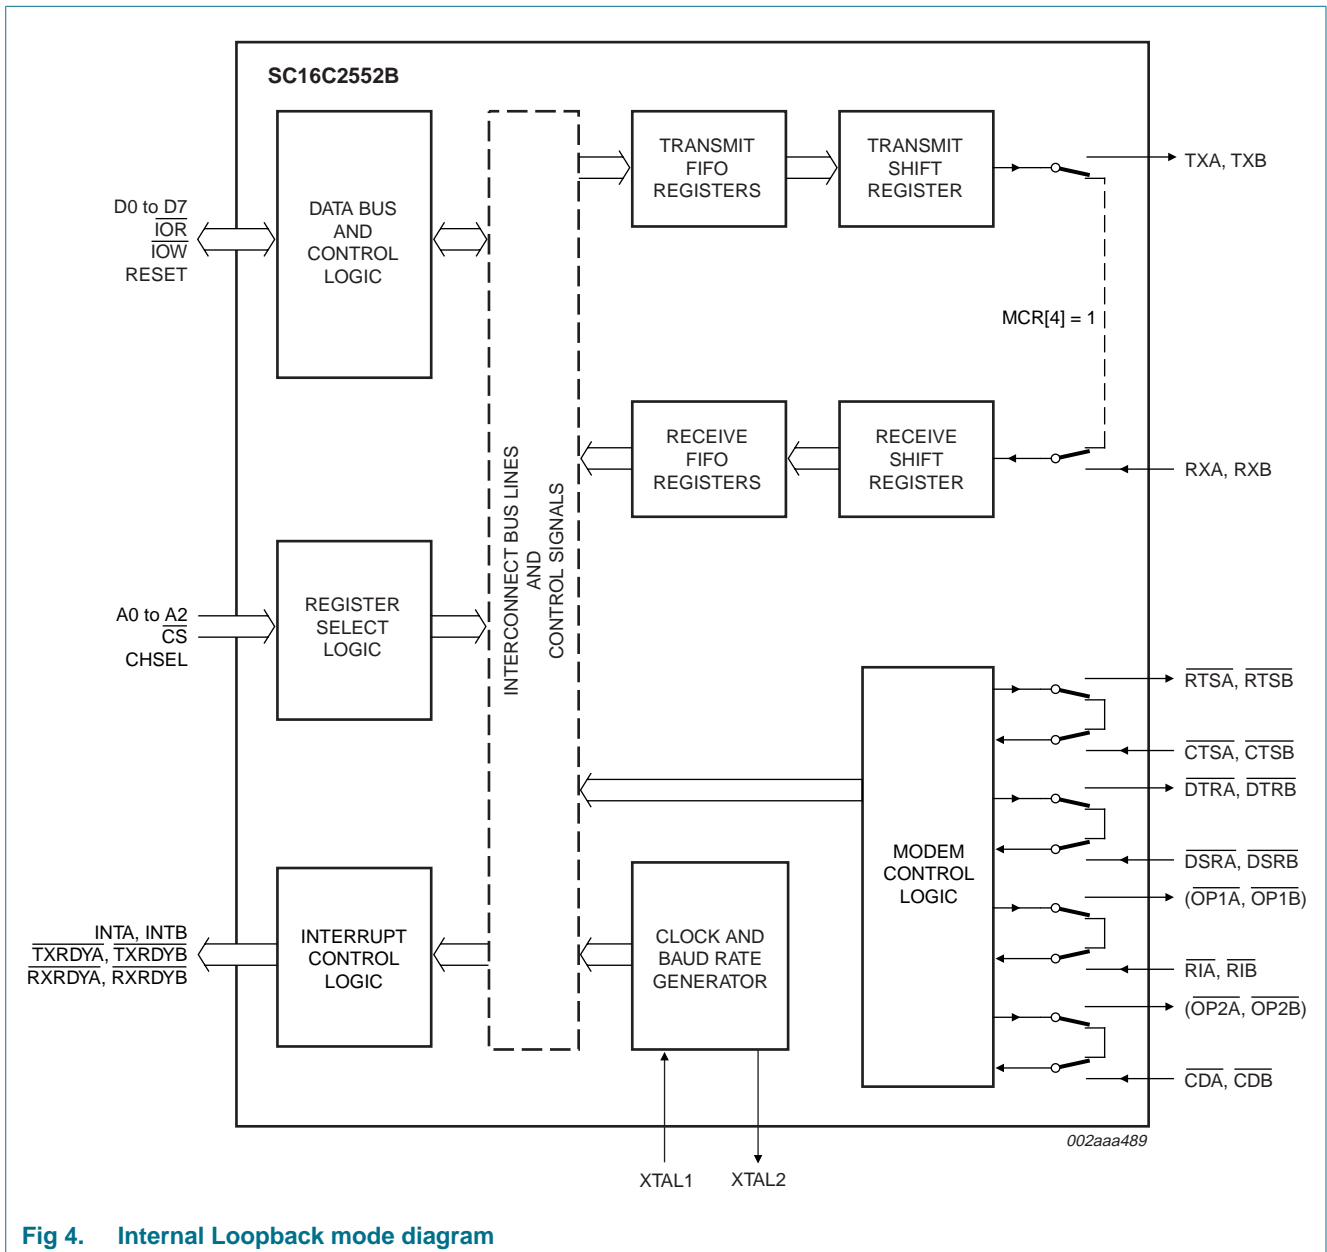

Fig 4. Internal Loopback mode diagram
The internal loopback capability allows on-board diagnostics. In the Loopback mode, the normal modem interface pins are disconnected and reconfigured for loopback internally. MCR[3:0] register bits are used for controlling loopback diagnostic testing. In the Loopback mode, INT enable and MCR[2] in the MCR register (bits 3:2) control the modem  $\overline{RI}$  and  $\overline{CD}$  inputs, respectively. MCR signals  $\overline{DTR}$  (bit 0) and  $\overline{RTS}$  (bit 1) are used to control the modem  $\overline{DSR}$  and  $\overline{CTS}$  inputs, respectively. The transmitter output (TX) and the receiver input (RX) are disconnected from their associated interface pins, and instead are connected together internally (see Figure 4). The  $\overline{CTS}$ ,  $\overline{DSR}$ ,  $\overline{CD}$ , and  $\overline{RI}$  are disconnected from their normal modem control inputs pins, and instead are connected internally to  $\overline{RTS}$ ,  $\overline{DTR}$ , OP2 and OP1. Loopback test data is entered into the transmit holding register via the user data bus interface, D0 to D7. The transmit UART serializes the data and passes the serial data to the receive UART via the internal loopback connection. The receive UART converts the serial data back into parallel data that is then